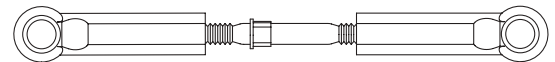

Figure 47B
- ❑ 1. Thread a plastic rod end (4) onto each end of a 1.375" turnbuckle (141). Tighten both rod ends equally until the rod is the same length as the assembled rod in Figure 47B. Make two of these assemblies.